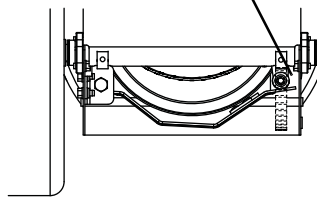

Figure 22
2. With the clutch lever engaged, check the clearance between the frame and plastic roller on the lower end of the attachment idler arm. See Figure 22.